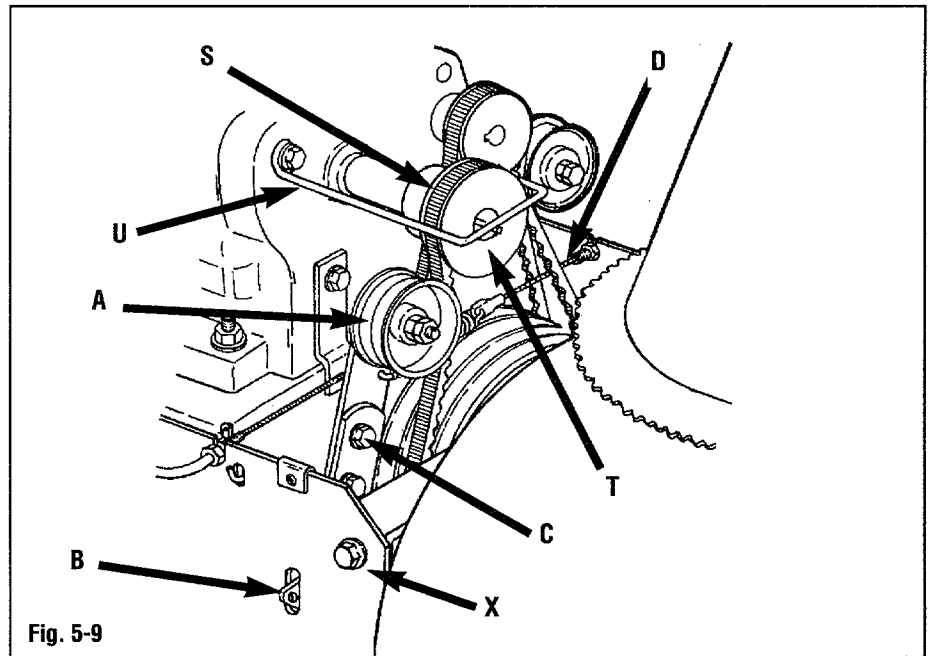
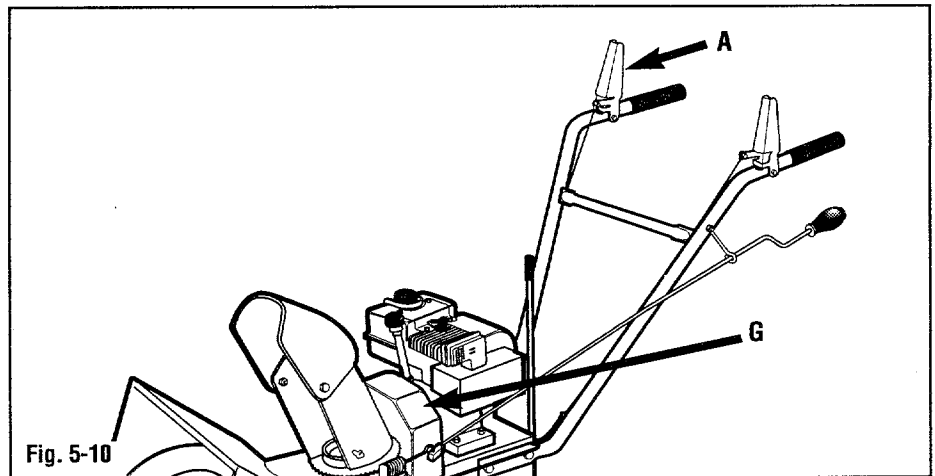
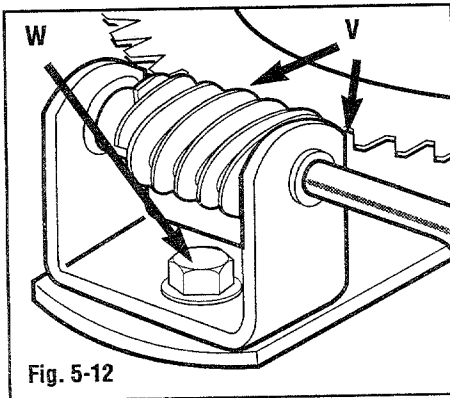

Fig. 5-9
Fig. 5-10
Fig. 5-12
2. Push idler arm pulley (A, Fig. 5-9) tight against belt (S). Insert a 5/32" (3mm) diameter pin into the hole in the brake arm (B, Fig. 5-9). The pin should be held against the outside of the frame.
3. Loosen bolts (C).
4. Push the idler pulley (A, Fig. 5-9) inward until the auger belt (S) is tight.
5. Tighten bolts (C).
- a. Remove the pin from the brake arm (B).
- b. Push the idler pulley (J, Fig. 5-9) inward until the auger belt (S) is tight.
- c. Check the hole in the brake arm (B). The inside of the hole in the brake arm should be even with the outside edge of the frame.
7. When the auger drive control lever is released (A, Fig. 5-10), the cable (D, Fig. 5-9) should be under a slight tension. Adjust, if needed, as follows:
- b. Adjust the cable tension by rotating adjustment nut (P, Fig. 5-9) until cable (D, Fig. 5-9) is under a slight tension when the auger drive control lever (A, Fig. 5-10) is released.
- c. Hold adjustment nut (P, Fig. 5-9) and securely tighten locking nut (O) when the adjustment is complete.
8. Position the belt cover (G, Fig. 5-10) back on the unit and secure with the two bolts removed earlier.
3. Remove the four flange bolts (X, Fig. 5-9) securing the auger housing and the frame/handlebar assembly together.
4. Carefully separate the auger housing from the frame/handlebar assembly. Remove the auger drive belt (S) from the drive pulley on the engine (T). Loosen any belt guides (U), if needed to remove belt (S) from pulley (T). Prop the handlebars on a solid, stable object, such as a workbench.
1. Remove the two bolts securing the belt cover (G, Fig. 5-10). Remove the belt cover (G).
3. Move the auger housing and the frame/handlebar assembly together and position the auger drive belt (S, Fig. 5-9) around the drive pulley on the engine (T).
4. Secure the auger housing and the frame/handlebar assembly together with the four flange bolts (X) removed earlier.
5. Adjust and tighten any belt guides (U) loosened earlier during step 4, "REMOVAL." Adjust the belt guides 1/16" (1mm) away from the auger drive belt (S) when the belt is tight.
6. Position the worm gear and support (V, Fig. 5-12) back in place on the unit. Secure the worm gear and support with bolt (W).
7. Rotate the chute control crank and check for binding. Reposition the worm gear and support (V) as needed for smooth operation.
9. Position the belt cover (G, Fig. 5-10) and secure with the two bolts removed earlier.